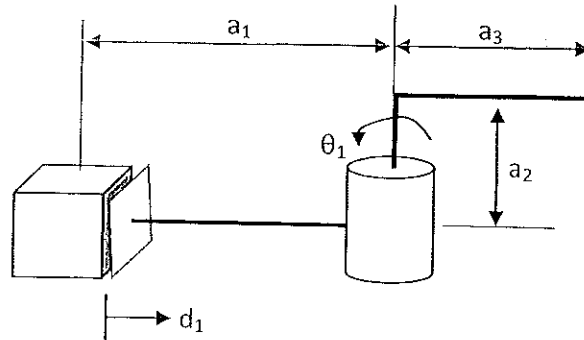

Figure 02
- (d) Figure 02 represents a kinematic diagram for a 2 degree of freedom manipulator. Find the inverse kinematic equations.